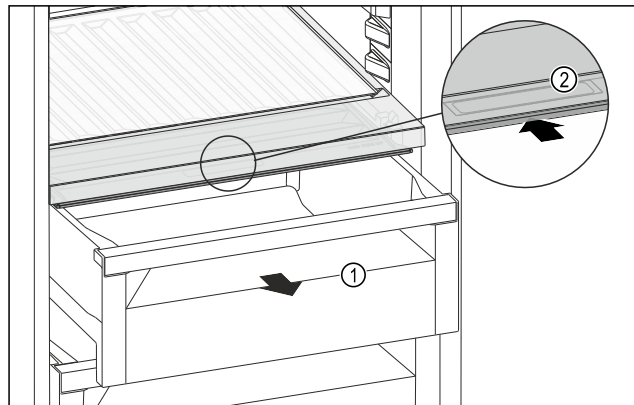

Fig. 173
- ▶ Pull out the drawer *Fig. 173 (1)*.
- ▶ Grasp the recessed grip *Fig. 173 (2)* on the compartment lid and push the compartment lid backwards at the same time.